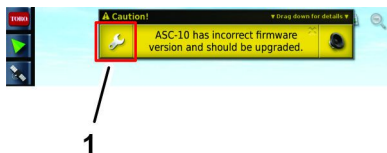

Figure 27
1. Press the wrench icon in the ASC firmware message to navigate directly to the ECU settings screen in setup (Figure 27).